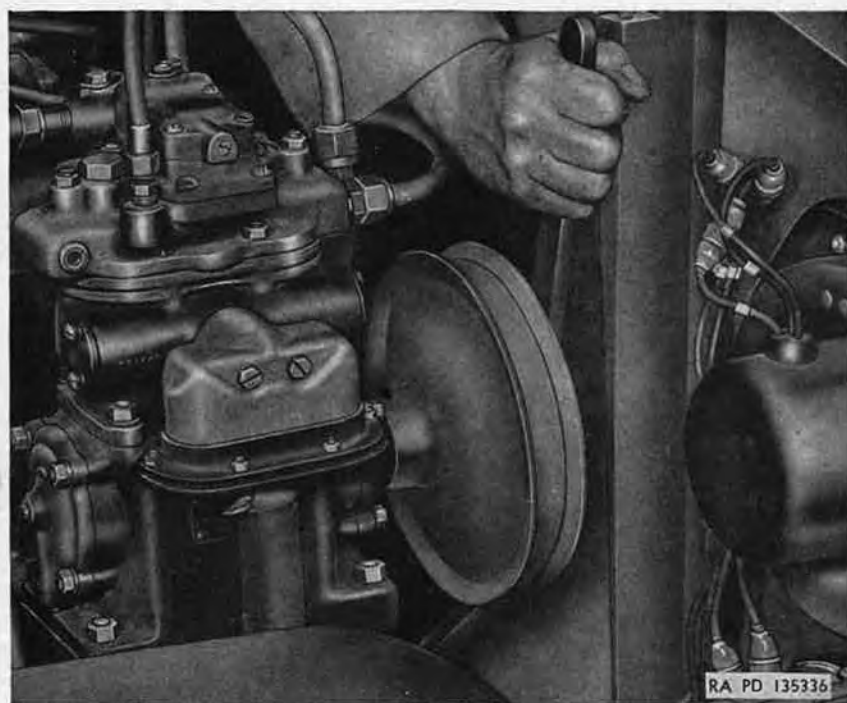

Figure 250. Adjusting air-compressor drive belt tension.
- (b) Loosen two cap screws (L, fig. 148) on front flange of compressor drive pulley. Using a wrench (fig. 250), turn flange in or out on threaded hub until correct belt tension ((a) above) is obtained. Tighten the two cap screws on front flange.
- (1) Remove air strainer from air compressor (c below).